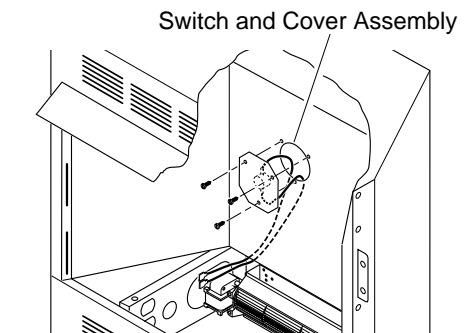

Figure 11 - Installing Switch and Cover Assembly
8. Mount the supplied thermostatic switch and cover assembly into firebox wrapper rear wall. Do this by feeding terminal ends of wire harness into the hole. Allow wires to fall to bottom of firebox cavity (see Figure 11).
9. Using three screws from step 7, attach switch and cover assembly to firebox wrapper rear wall. Tighten screws firmly (see Figure 11).